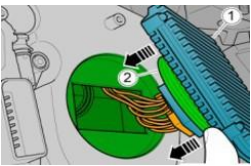

Figure 5
- Referring to Figure 5 - Insert the new control unit (1) into the headlamp assembly aperture (highlighted) Take care not to dislodge the control unit seal (2)